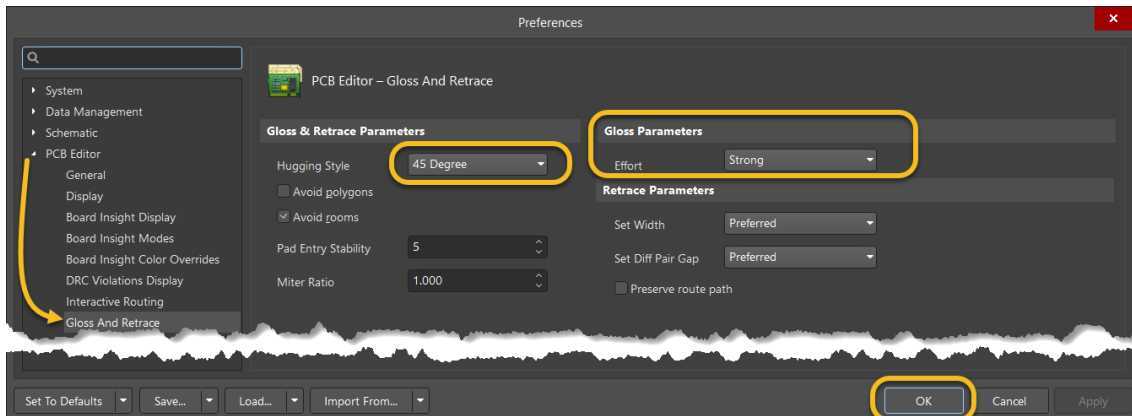

Figure 5. Preferences for Gloss and Retrace configuration
20. Before using the Gloss option, check a Preference setting and change it if needed. Use Figure 5 as reference.